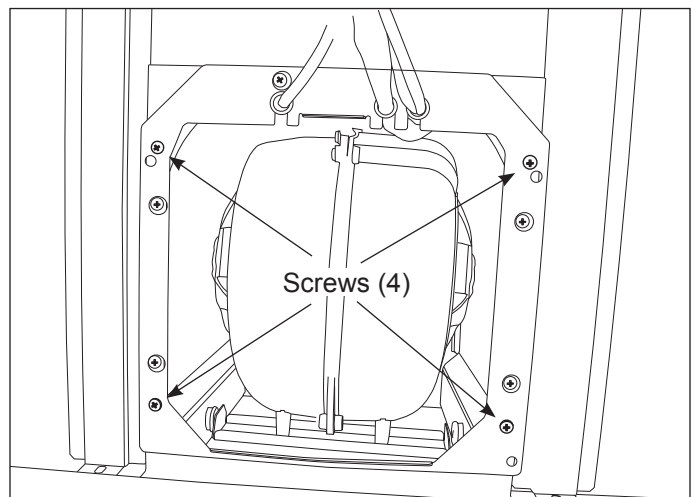

Figure 4-23 Bottom Bracket Screws
8. Remove screws (4) that fasten the bottom bracket to the hood. (See Figure 4-23)